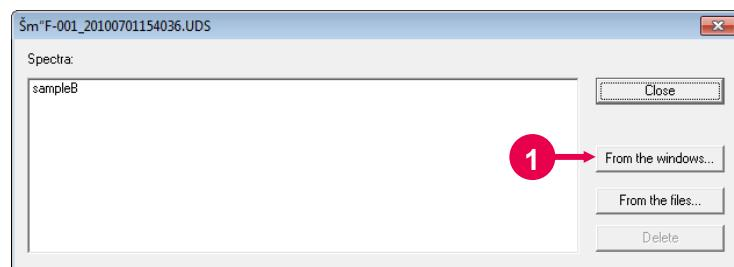

Fig. 5-19
- (1) Select the Overlay command from the Data menu.
- (2) A dialog box as shown in Fig. 5-19 will appear.
- (3) Click the **From the windows** button. A dialog box as shown in Fig. 5-20 will appear (refer to (1) in Fig. 5-19). A list of the sample names for the presently displayed data is indicated in the left box, and a list of the overlaid sample names in the right box.